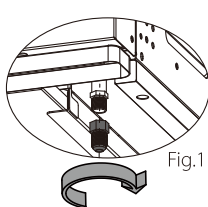

Fig.1
2. Using a spanner, connect the adaptor to the gas inlet of the barbecue as shown on Fig.1 below. Please do not over tighten the adaptor otherwise there is a possibility that you will damage the adaptor.